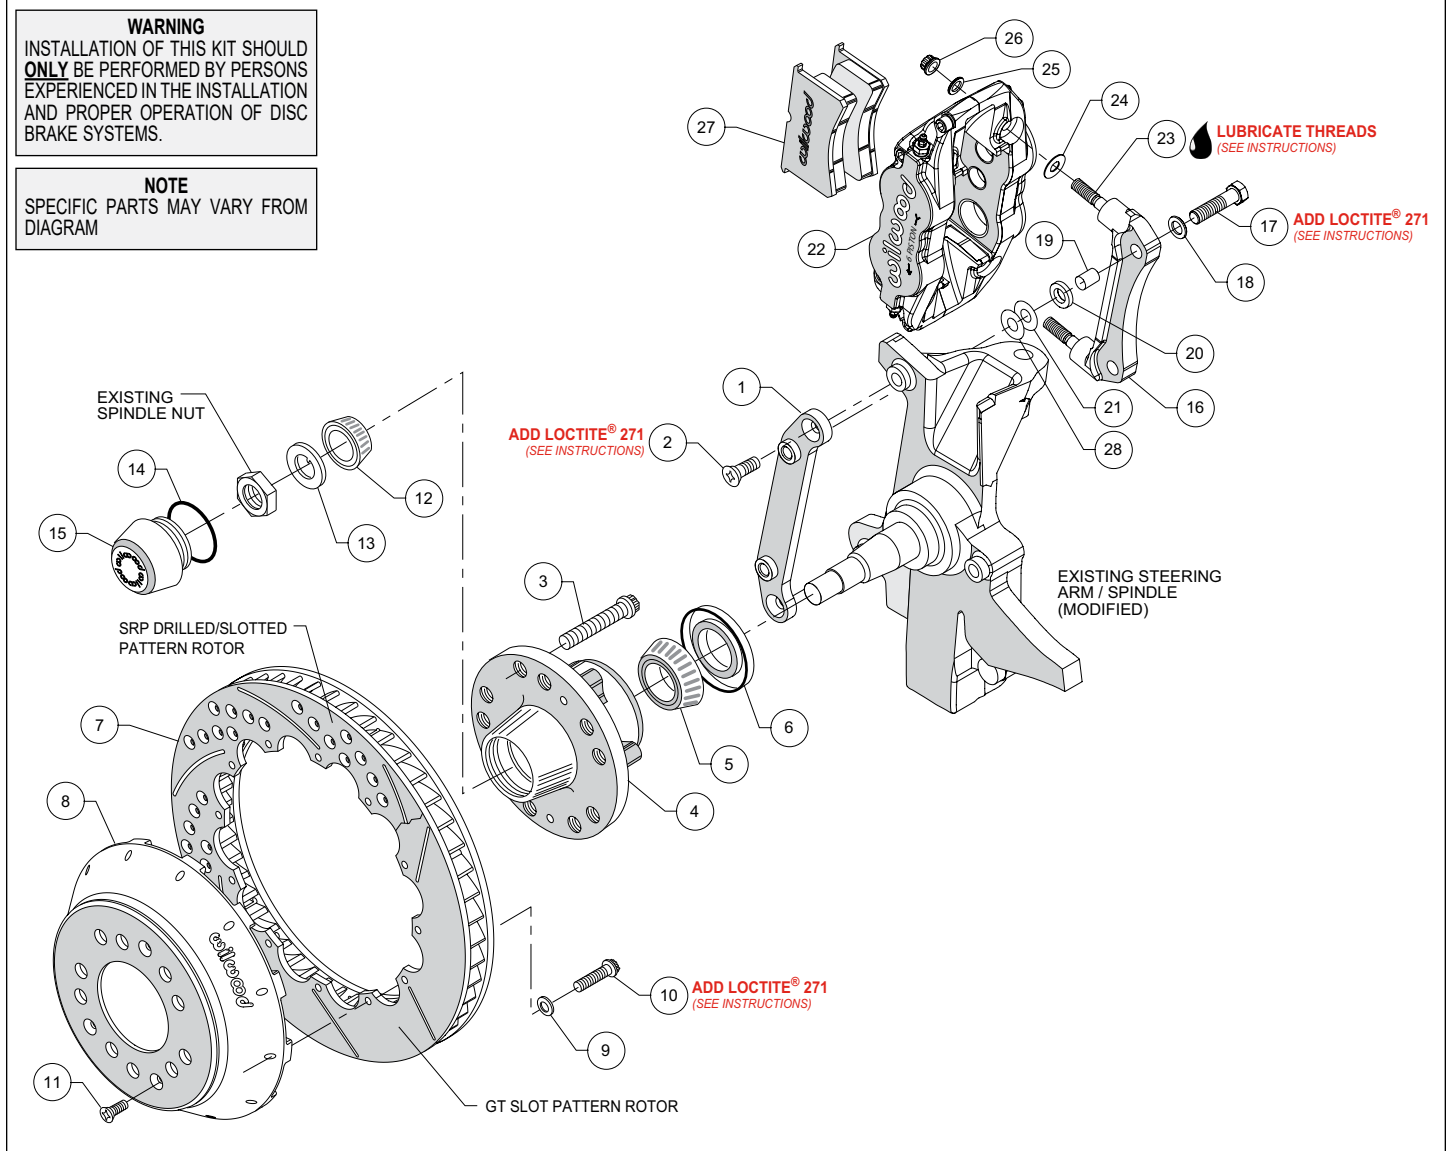

Figure 2. Typical Installation Configuration
**NOTE:** Numbers in parenthesis refer to the parts list on the preceding page and Figure 2.
•Position the flat mounting bracket (1) against the outboard side of the spindle. Slide the mounting bolts (2) through the bracket and into the threaded spindle holes and tighten. The bracket must tighten squarely against the outboard side of the spindle face/upright. Inspect for interference from casting irregularities, machining ridges, burrs, etc. If everything fits correctly, remove the mounting bolts (2) and coat threads with red *Loctite*® 271 and reinstall. Torque two bolts (2) to 30 ft-lb. **NOTE:** Be sure the heads of the flat caliper bracket (1) insert nuts are facing outward toward the wheel.